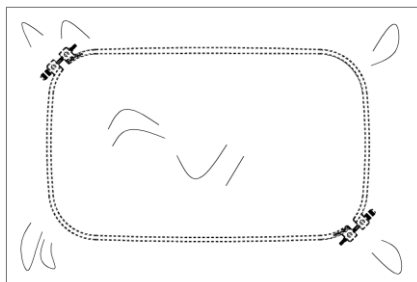

Figure 84
4. Place the cloth with its top side up on the external embroidery frame. See Figure 84.